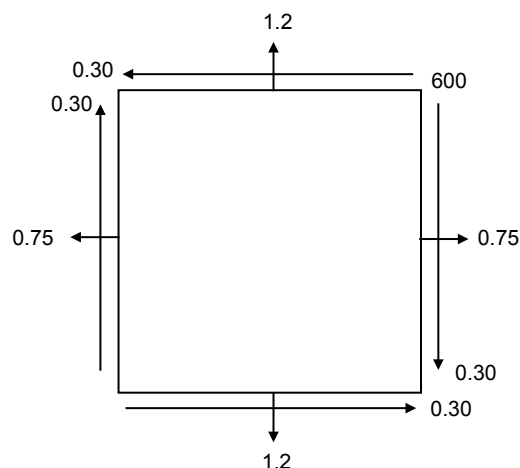

Figure 1
- Q.1 (a) A point in a given material is subjected to a system of stresses as shown in the Figure 1. Calculate the following :